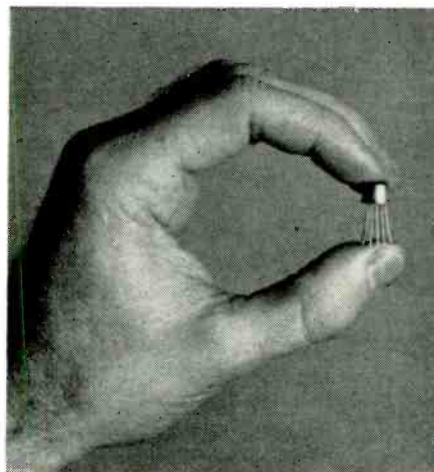

Fig. 1—That's all there is to it—one single TO-5 header and case, about 3/8 inch diameter, 3/8 inch high, with 10 wire leads.
The tiny size of the RCA integrated circuit (IC) is shown in Fig. 1. It is actually a complete subassembly. That is, the little unit contains the equivalent of 12 transistors, 12 diodes, and a brace of resistors, and performs several functions: 4.5 MHz amplification, limiting, noise rejection, FM sound detection, and audio preamplification. Besides these multiple stages, the IC has two internal power-supply circuits for its own voltage regulation and distribu-